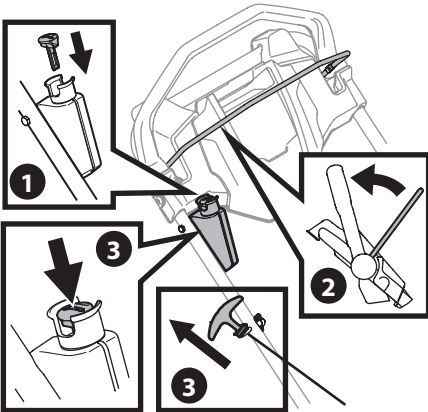

Figure 6
2. Standing behind the mower, pull the blade control back against the drive control (Figure 6).
- **Recoil Start:** While holding the blade and drive controls together firmly, pull the recoil starter handle lightly until resistance is felt, then pull rapidly to overcome compression, prevent kickback, and start the engine. Repeat if necessary (Figure 6).
- **Electric Start (If Equipped):** Push the electric starter push key to start the engine (Figure 6).